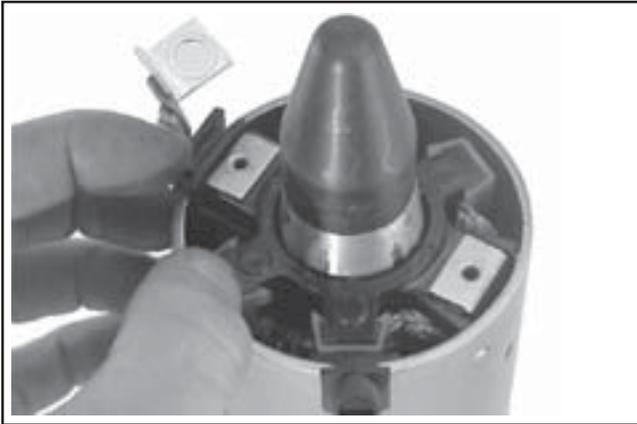

Figure 8-41. Installing Brush Holder Assembly Using Tool with Extension.
- d. Hold the starter assembly vertically on the end housing, and carefully place the tool (with extension) and assembled original brush holder assembly onto the end of the armature shaft. Slide the brush holder assembly down into place around the commutator, install the positive (+) brush lead grommet in the cutout of the frame. See Figure 8-41.